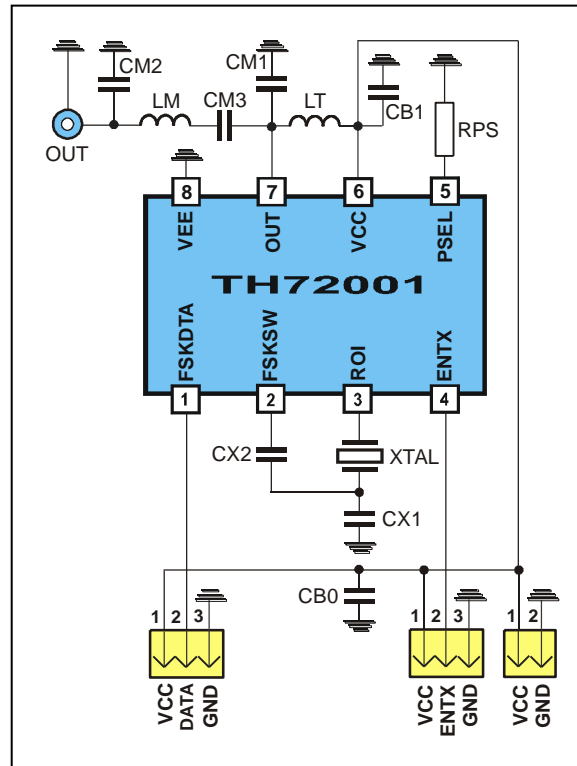

Fig. 18: Test circuit for FSK with 50 Ω matching network
typical values at $T_A = 23\text{ °C}$ and $V_{CC} = 3\text{ V}$; test circuit shown in Fig. 18, $f_c = 315\text{ MHz}$
- Data according to test circuit in Fig. 18
6.1. Test circuit component list to Fig. 18